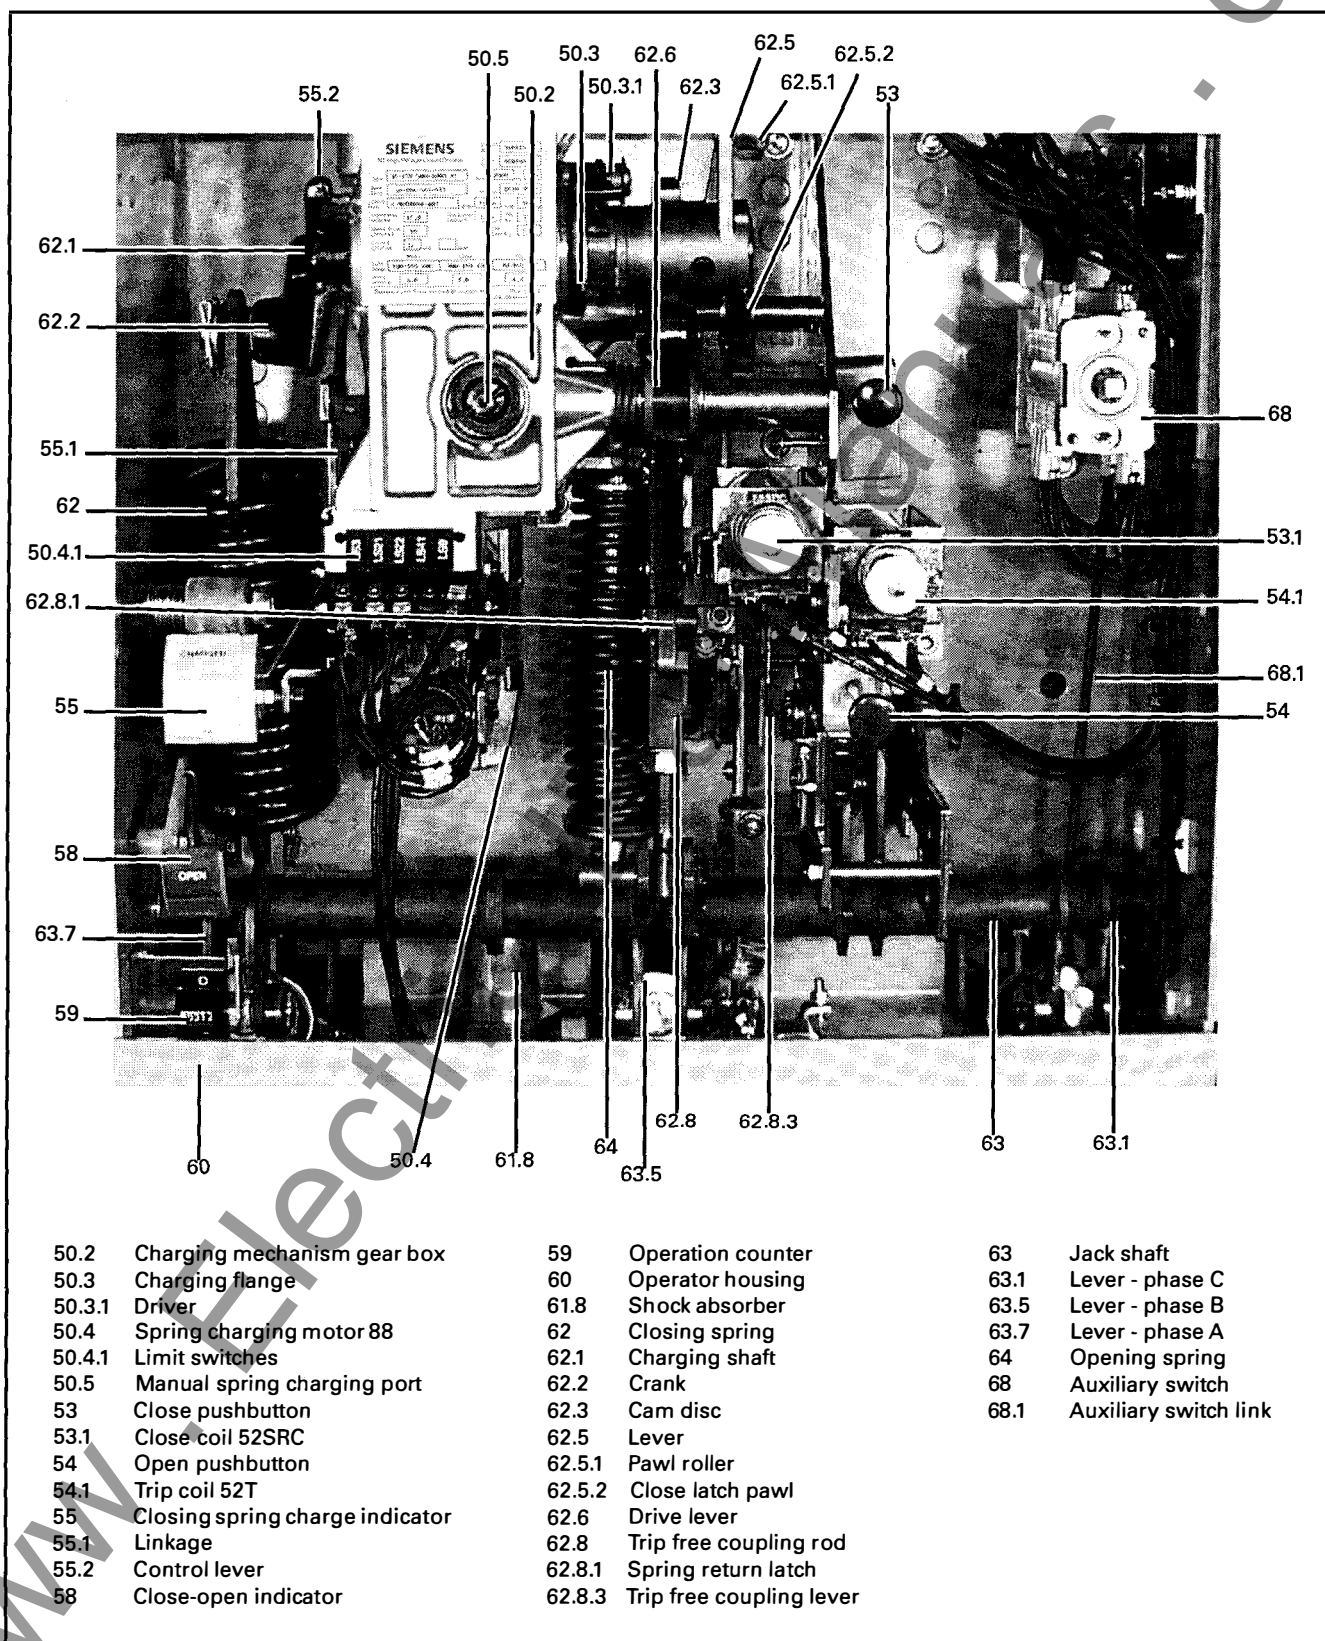
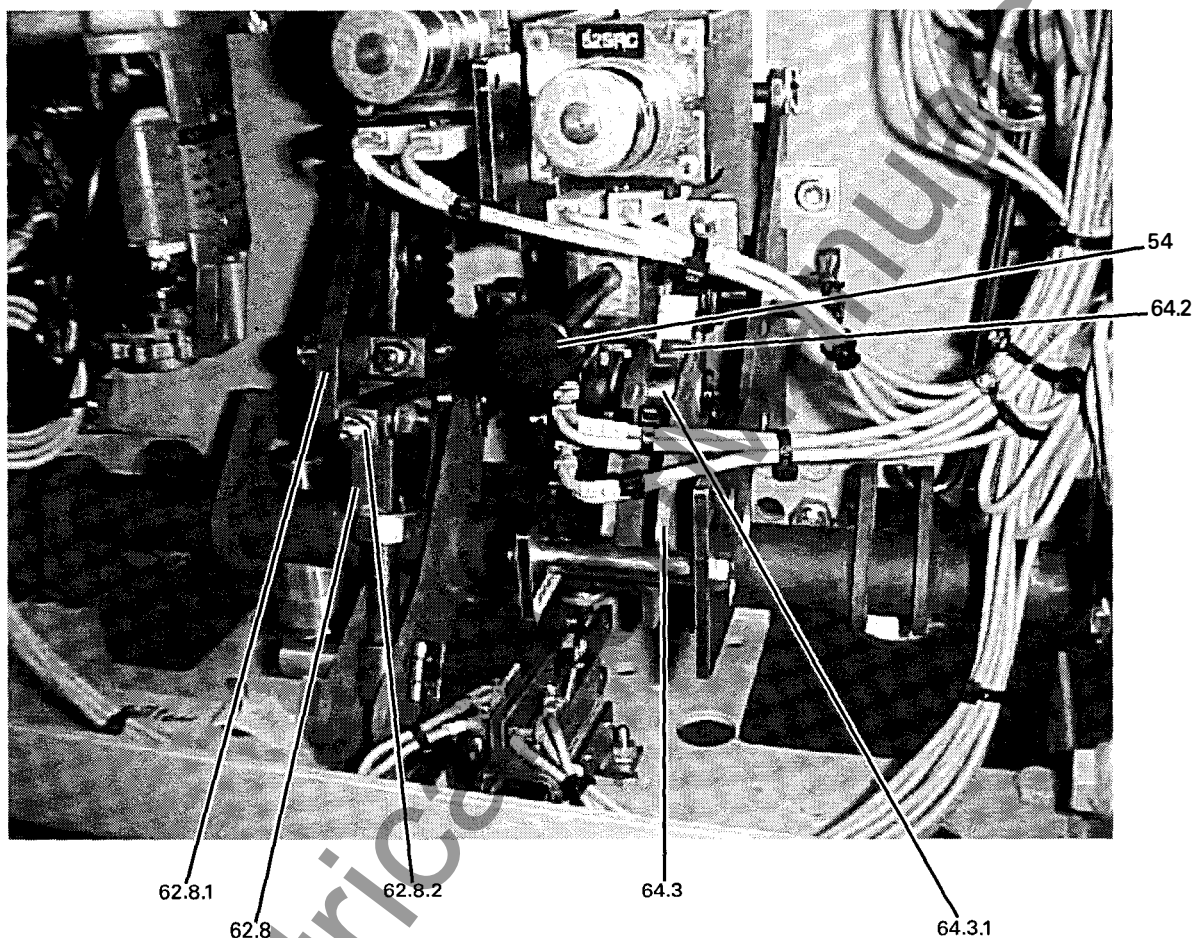

Figure 6a. Stored Energy Operating Mechanism (Circuit Breaker Shown in Open Position)
Figure 6b. Stored Energy Operating Mechanism (Circuit Breaker Shown in Closed Position)
During closing, the opening spring (64) (Figure 6a) and the contact pressure springs (49) are charged and latched by pawl (64.2) (Figure 6b). The closing spring (62) (Figure 6a) of the motor-operated circuit breaker is recharged immediately after closing.
When an opening command is given, the energy stored in the opening and contact pressure springs (49) is released by pawl (64.2) (Figure 6b). The opening sequence is similar to the closing sequence. The residual force of the opening spring arrests the moving contact in the open position.
The essential parts of the operating mechanism are shown in **Figures 6a and 6b**. The control and sequence of operation of the mechanism is described in **Figure 8**.
Motor Operating Mechanism (Figure 6a)
The details of the closing spring charging mechanism are shown in **Figure 6a**. The charging shaft is supported in the charging mechanism (50.2), but is not coupled mechanically with the charging mechanism. Fitted to it are the crank (62.2) at one end, and the cam (62.3), together with lever (62.5), at the other.
Closing (Figures 6a, 6b and 7a - 7d)
Trip Free Operation (Figures 6a and 6b)
Opening (Figure 6a)